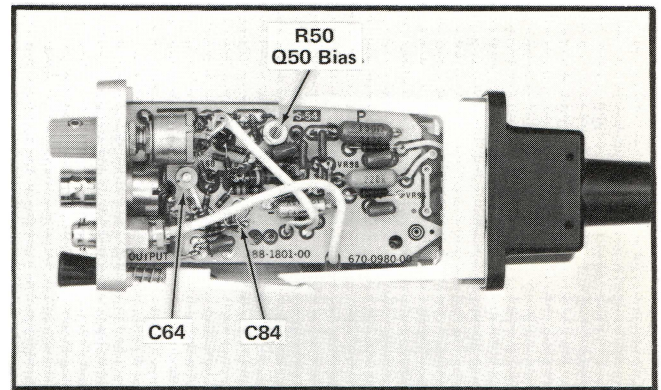

Fig. 5-9. Output board, on the instrument right side, showing the location of internal controls.
2. Adjust Q50 Bias (R50) ①
b. Adjust R50 (see Fig. 5-9), first fully clockwise, then slowly counterclockwise until the rising portion of the PULSE OUTPUT signal appears on channel 2. Note this position and continue to adjust R50 slowly counterclockwise until the rising portion of the PULSE OUTPUT signal disappears. Then set R50 midrange between the two positions. See Fig. 5-1A.
3. Adjust Lead Time Cal (R10) ①
d. Adjust C64 (see Fig. 5-9) for fast risetime without overshoot. No further adjustment is required for C64 or C84 if the risetime (10 to 90% amplitude) is 1 ns or less and the aberrations (less than +1.5%, -1.5%, total of 1.5% P-P of amplitude) are within the specifications. Normally C64, when misadjusted, will show a slight overshoot and faster risetime. If no effect is noticed with the adjustment of C64, or the pulse overshoot cannot be reduced, an improvement may be possible with a change in the capacitance of the wire capacitor (twisted pair of wires) C84.